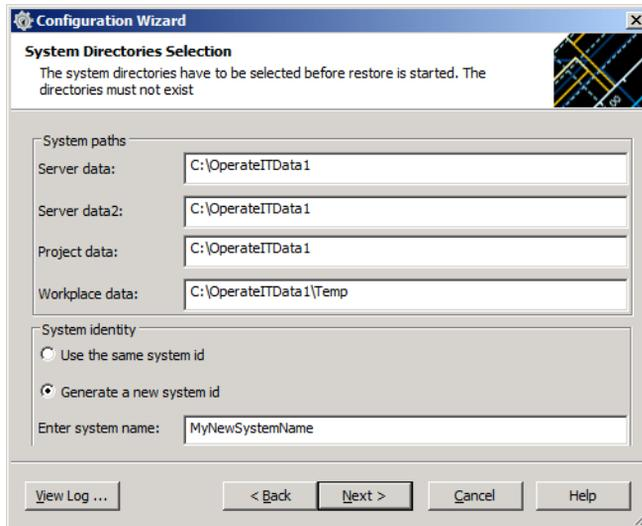

Figure 58. The Restore Selection in the Configuration Wizard
1. Click the **Select Path** button (Figure 58) to enter the path for available backups.
Backups of older versions of the 800xA System will show up in the backup list in the Restore Selection dialog, (Figure 58), in the same way as backups from a system of the same version.